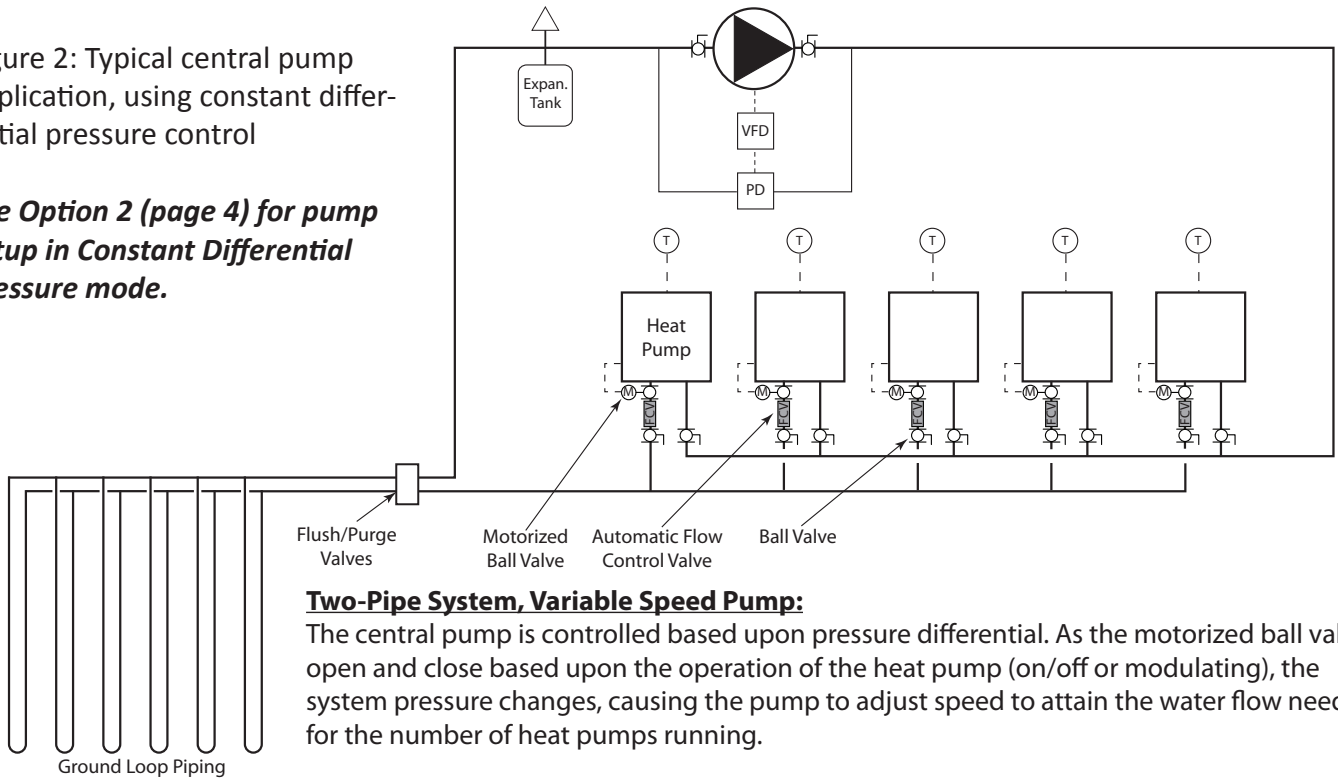

Figure 3: Typical primary-secondary application with an individual secondary pump for each heat pump and a variable speed primary (ground loop) pump
- **Primary (Ground Loop) Pump for Primary-Secondary Application -- Temperature Difference:** Primary-Secondary pumping allows for a smaller pump on the ground loop portion of the installation, since the piping arrangement (primary-secondary) effectively separates the piping into two pumping systems, the ground loop, and the inside piping. Figure 3 provides an example piping diagram. The primary pump is controlled based upon temperature difference (typically 6 to 10 deg F., depending upon climate and building load profile). The secondary pump(s) are energized only when the heat pumps are running. When the heat pumps are running, heat is extracted or rejected from the ground loop, causing the temperature difference to increase on the primary side, which causes the Magna3 to increase speed to provide additional flow.
Option 2: Central Pump Application, Constant Differential Pressure Mode, Zone Valve at Each Heat Pump (Fig. 3)